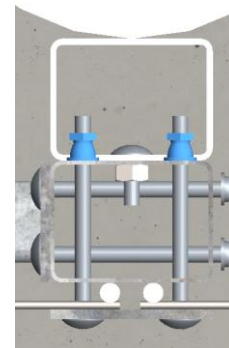

Figure 19
*Insert the washers and self-breaking nuts. Tighten enough to allow height and level adjustments. (Fig 19)